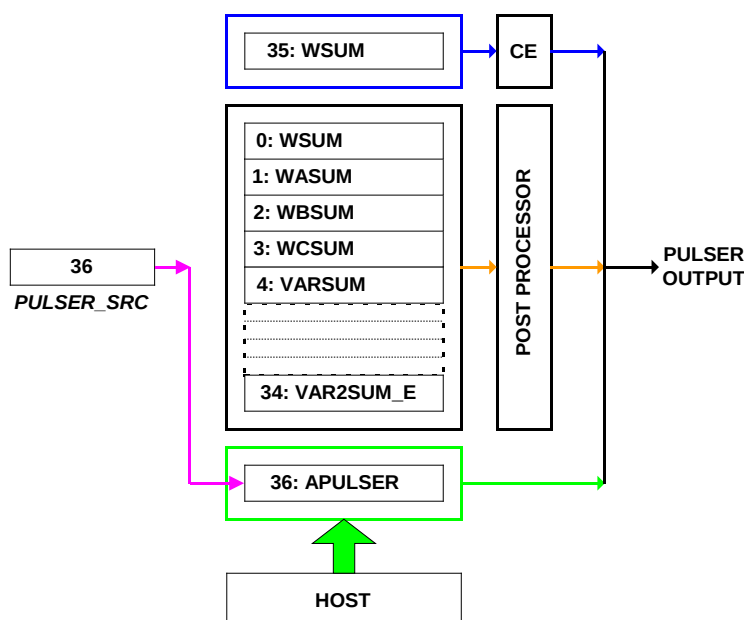

Figure 14: Pulse Generation via APULSER Selected in the PULSER_SRC Register
Figure 14 shows the registers that control the PULSEW, PULSER, PULSE3 and PULSE4 output pins if the corresponding *PULSE_SRCS* register contains the decimal value 36. This figure uses the *PULSER_SRC* 8-bit portion of the *PULSE_SRCS* register as an example: The internal pulse generation (CE) and the post-processor pulse generation are deselected, and the *APULSER* register acts as the pulse generation source. In this setting (external pulse generation), the host is responsible for updating the data in the *APULSER* register.